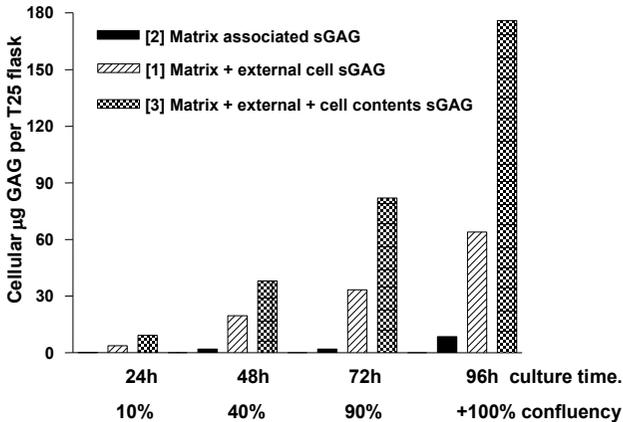

Fig. 4: CHO cells cultured in a T-25 flask.
- (b) Tap flask or wells and transfer the cell suspension to 1.5 ml microcentrifuge tube(s). Immediately place in **ice-water bath**. Ensure cell suspension is well mixed when subsequently sampling aliquots for (1), (2) & (3).
(1) sGAG attached to the external surface of the cell (Fig. 4).
(2) sGAG from the extracellular matrix after cell removal (Fig. 4).
(3) sGAG external & internal cell contents (Fig. 4).